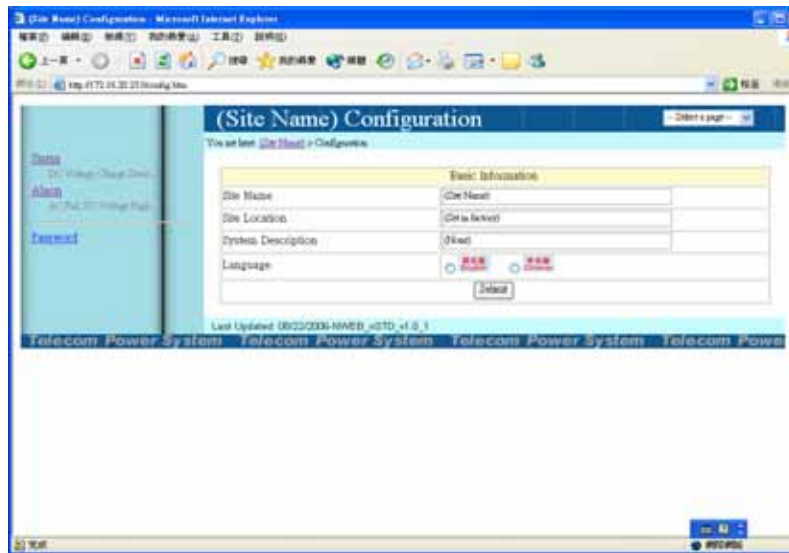

Fig2. Config.htm
- This page, Fig2, supports users for configuring site’s basic information, and password. After finishing configuration, please click on “Submit” icon to start making changes after inputting correct “administrator” and “password”.